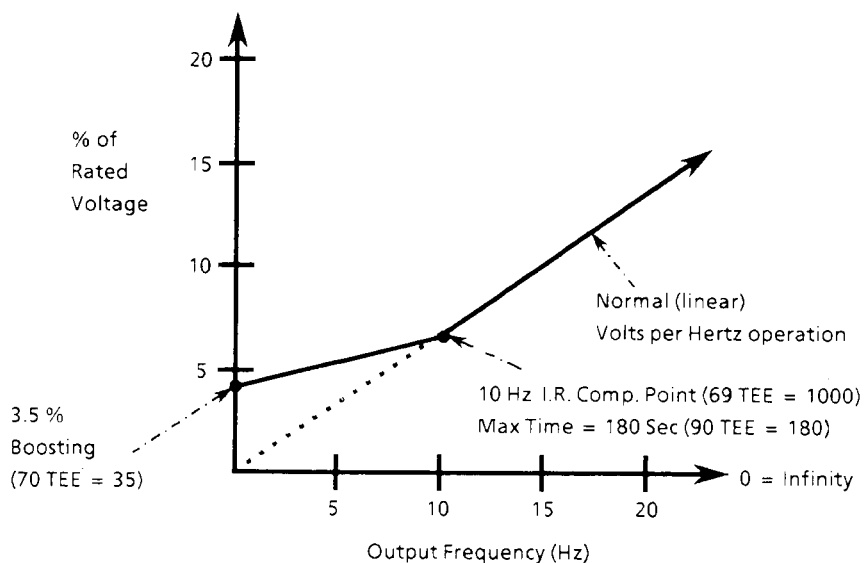

Figure 4-9. Basic I.R. Compensation
- 4-3.3 Adjusting the I.R. Compensation** - Utilizing and adjusting the basic I.R. Compensation of the Bulletin 1352 is accomplished through setting of three parameter values. 70 TEE (I.R. Compensation Level) adjusts the amount of voltage boost added to the linear Volts/Hz value at low frequencies. 69 TEE (I.R. Compensation Point) determines the frequency point at which the I.R. compensation is eliminated and the drive output resumes the normal Volts/Hz relationship. 90 TEE (I.R. Comp Time) adjusts the maximum time IR compensation is allowed to remain active. The drive will shut down and report "Motor Stalled" (FL20) on the control panel if the limit is exceeded. This time limit can be defeated by setting 90 TEE to zero. Figure 4-9
represents the basic I.R. Compensation (mode 1) function of the Bulletin 1352. The values shown in Figure 4-9 are applicable for many situations. If Boosting (Param 70 TEE) has too high a value, it could result in an overcurrent trip on start or stalling of the the output frequency at 0 . . 6Hz due to the torque limiting function.